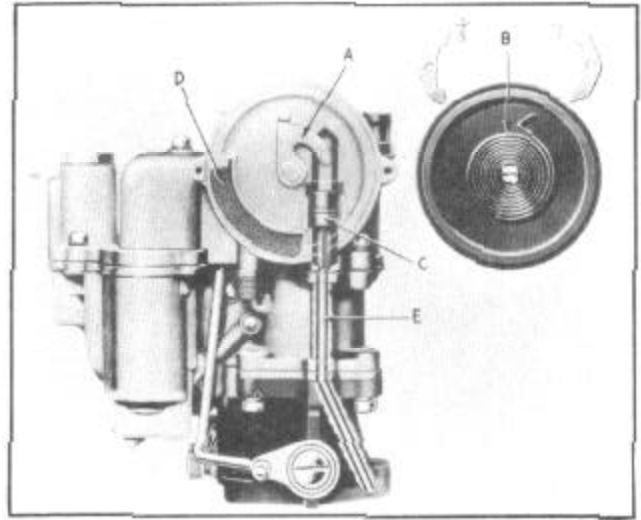

Figure 25--Choke Circuit
The choker shaft and lever assembly (A) Figure 25, choker valve and screws, and the automatic climatic control comprise the choke circuit group.
THE CHOKE AIR CLEANER SCREEN (D) Figure 25, may be clogged and this will restrict the flow of warm